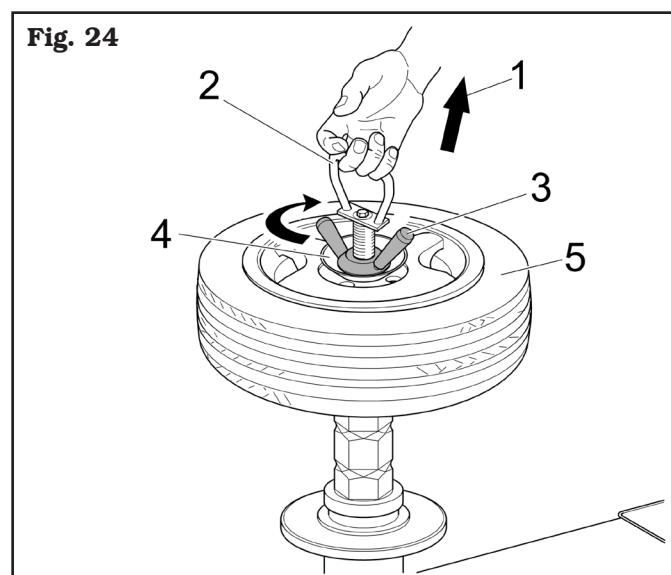

Fig. 24
6. Keeping the shaft lifted (Fig. 24 ref. 1) through the handle provided (Fig. 24 ref. 2), rotate the ring nut (Fig. 24 ref. 3) up to the complete tightening of the cone (Fig. 24 ref. 4) on the wheel (Fig. 24 ref. 5).